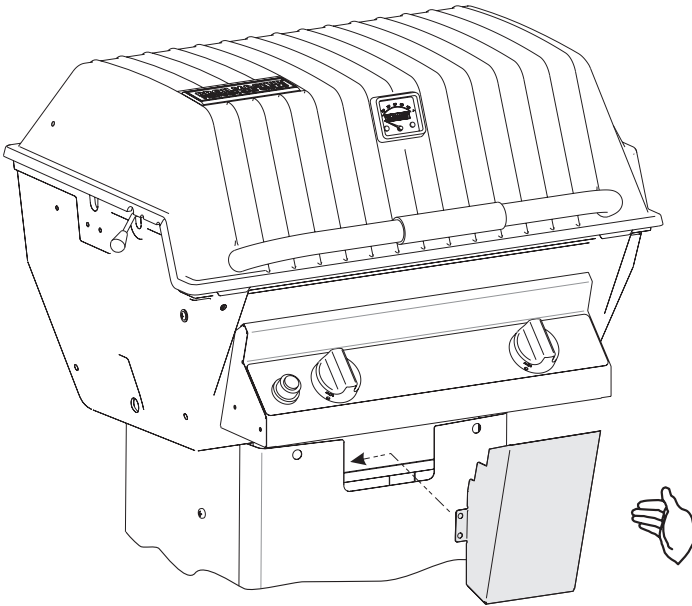
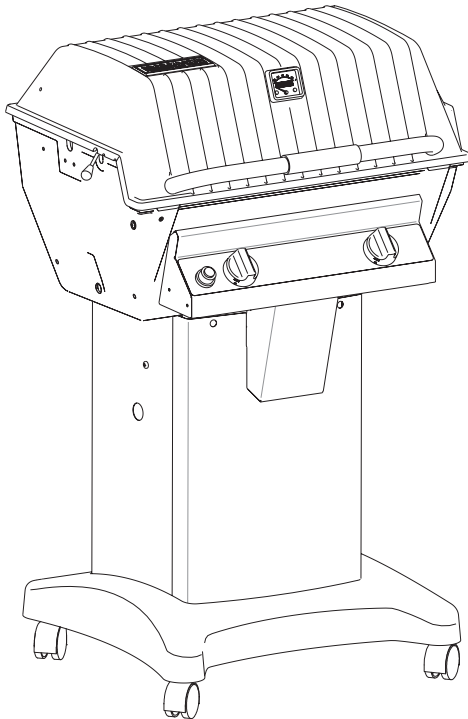

Figure 10
Figure 11
**For R3 Series Grill Heads:** Press in the two sides of the Control Housing (provided with Grill Head) and fit it into the opening under the grill head as shown in Figure 10. Grill Assembly will look like Figure 11.